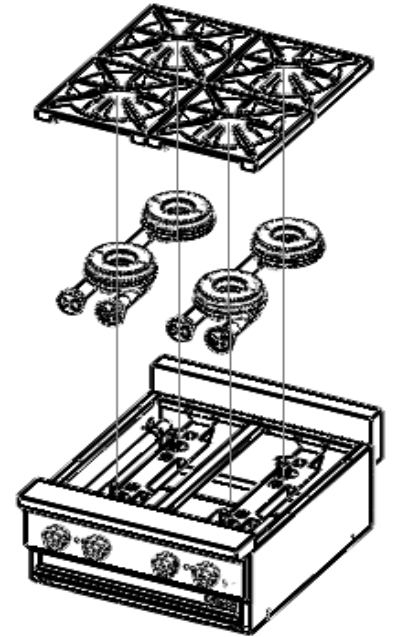

Fig. 1
1. Remove grills and burners from equipment (Fig. 1).